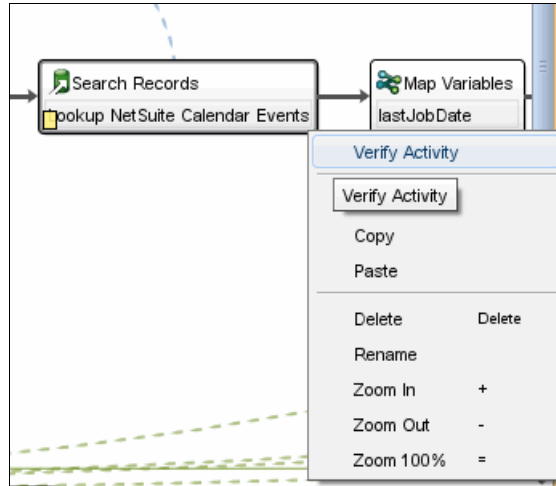

Figure 11-24 Verify Activity menu option
1. Right-click the **Search Records** activity (Lookup NetSuite Calendar Events), and then select **Verify Activity**, as shown in Figure 11-24. A dialog box opens starting the orchestration.